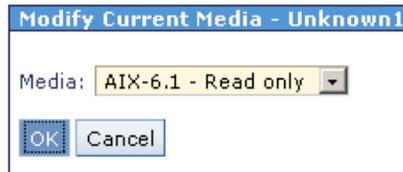

Figure 4-23 Create partition - modify current media of virtual optical device
12. Change the selected media from *none* to AIX-6.1 and click **OK**. See Figure 4-23.